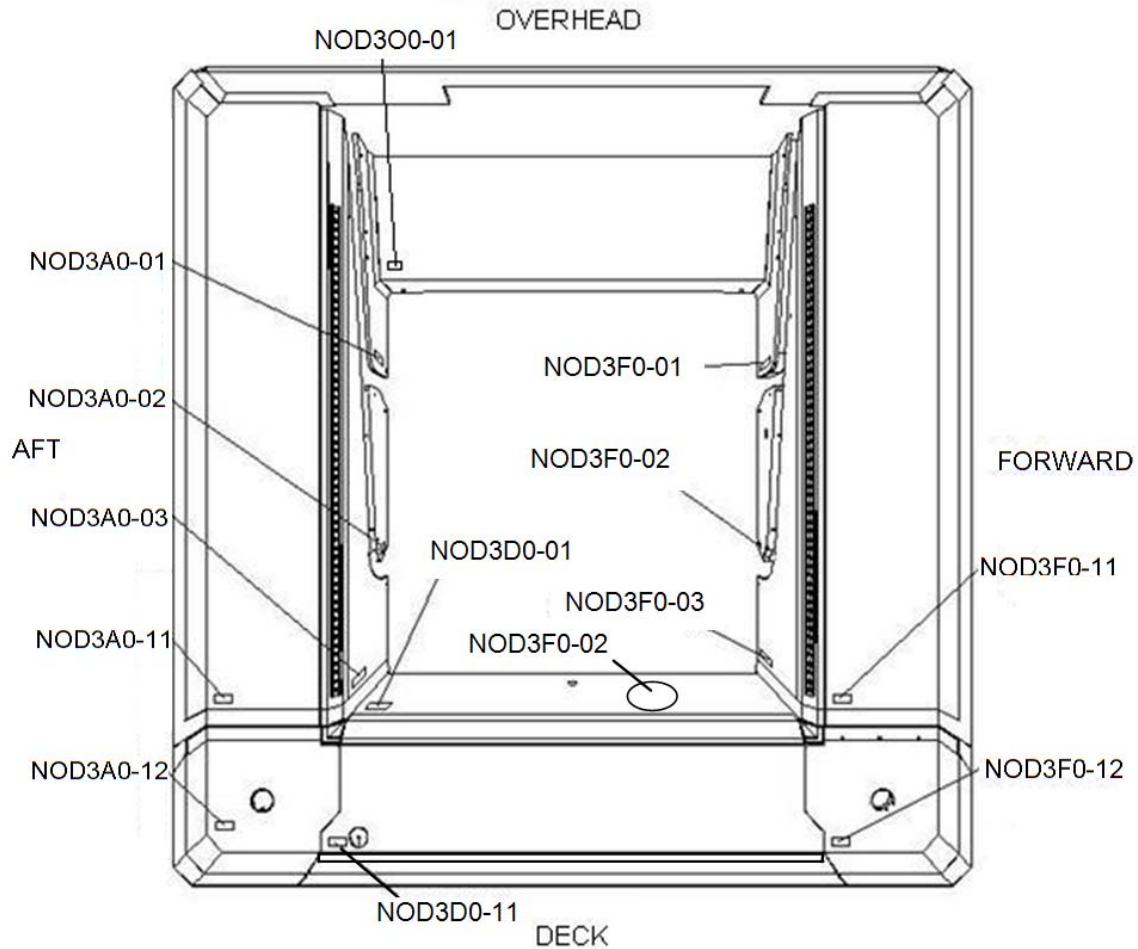

Figure 2.- Node 3 Port Cone (Looking Port).
- 1.1 Remove non-captive Launch Restraint Bolts (twenty-eight) from Node 3 Port Cone Closeout Panels (Driver Drill; Hex Shank, 1/4" Drive; 5/32" Hex Head, 1/4" Drive). Stow bolts and washers in Ziplock Bag. Refer to Table 1 and Figure 2.